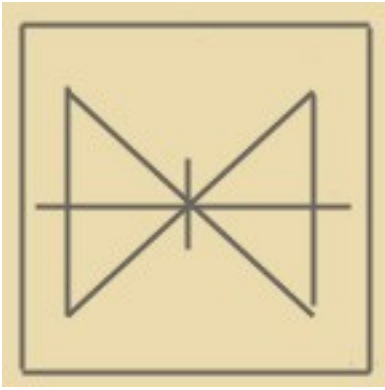
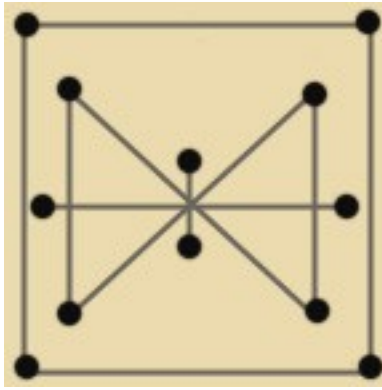
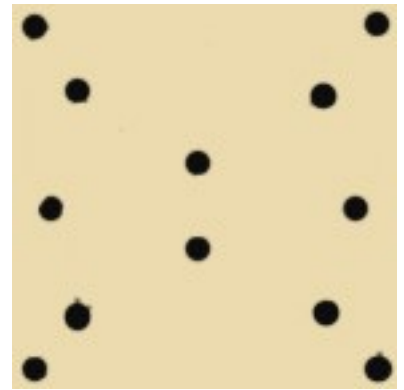

Figure 1
Figure 2
Figure 3
- 1) Sketch the design shown onto your metal blank (fig 1). Mark the places where you will punch the metal (fig 2) and use punch pliers to punch the holes (fig 3). Note – there will be one hole already punched in the blank discs by the manufacturer. Use this as your jumpring hole.